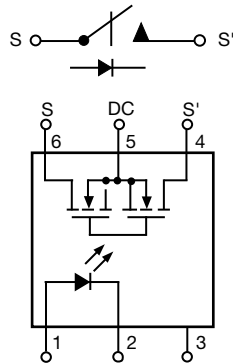
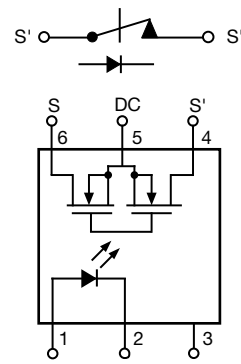

Fig. 2 - 1 Form A SSR
Fig. 3 - 1 Form B SSR
**A:** In case of normally open MOSFETs (Fig. 2), the switch is in the open circuit mode when there is no actuating LED current. For normally closed MOSFETs (Fig. 3), the output is conducting without the control signal and is open when there is an actuating LED current.